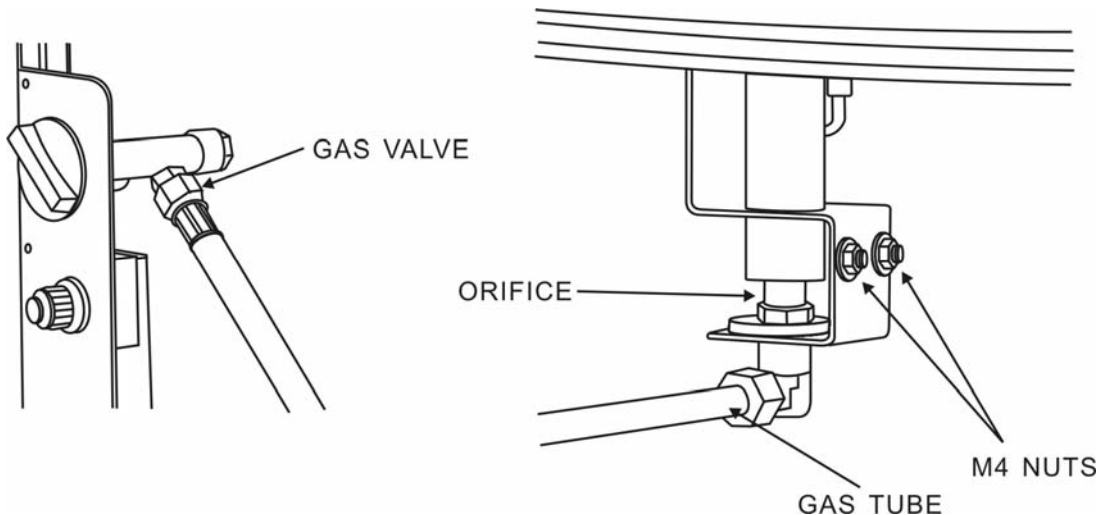

Figure 9
1. Disconnect the regulator hose from the gas valve. See Figure 9.